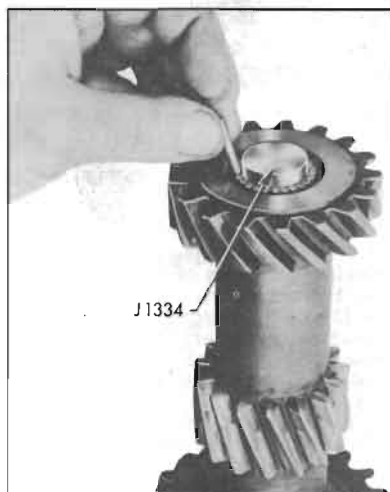

Figure 4-37—Installing Counter Gear Bearings with Loader J 1334
(7) *Counter Gear Bearings, Thrust Washer and Shaft.* Use Bearing Loader J-1334 when installing spacer, washer, and bearings in counter gear. See figure 4-37. Pack bearing rollers in white vaseline to hold them in place and make certain that all rollers are installed (25 in each bearing). Leave loader in gear until it is pushed out by the counter gear shaft during installation.